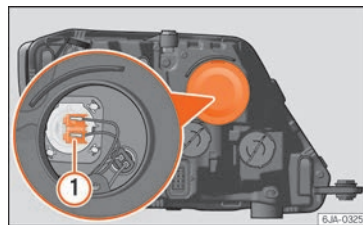

Fig. 91 Changing main beam headlight bulbs.
- Remove connector »» **Fig. 91 1** by pulling outward.